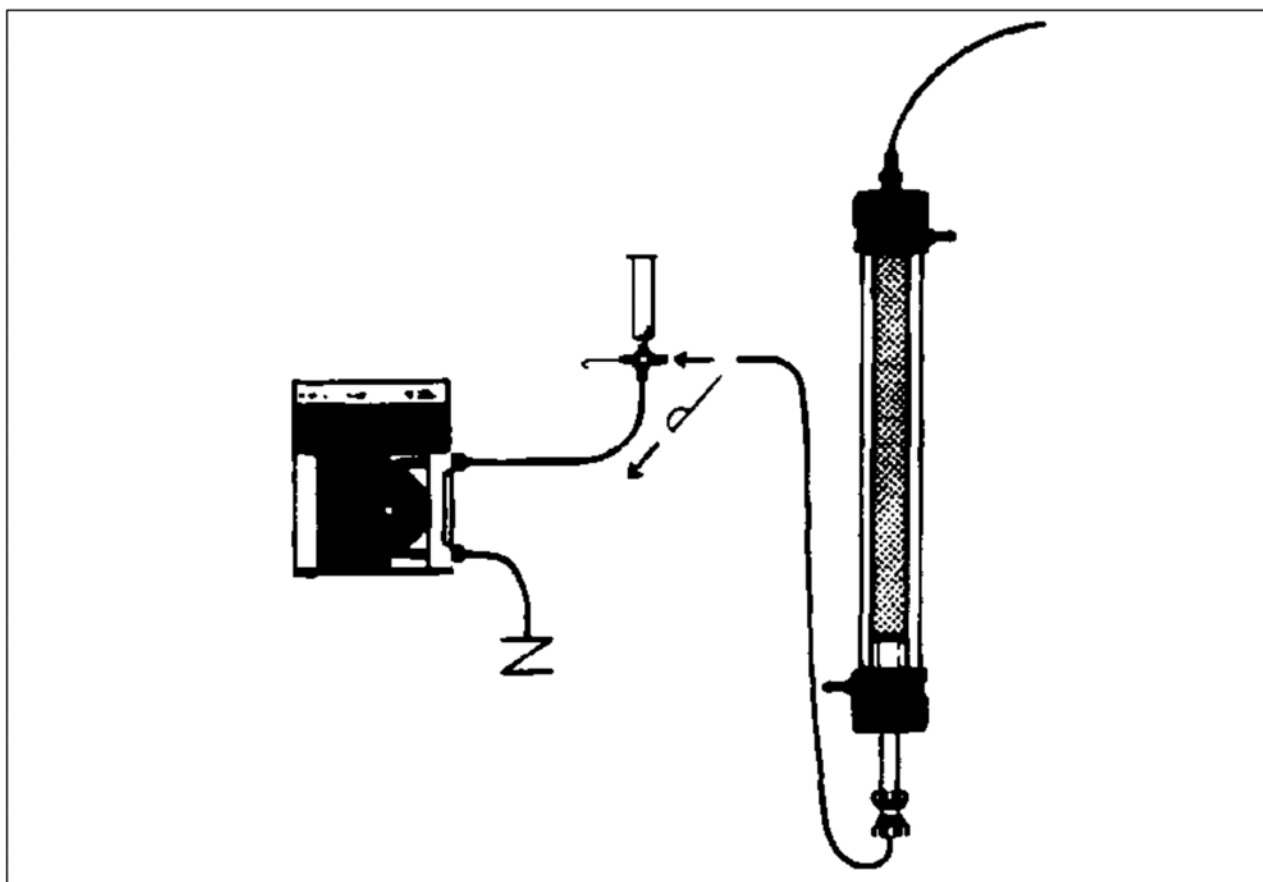

Fig. 4.
6. Remove the stopper from the adaptor tubing. If there are any air bubbles in the tubing below the adaptor, remove the stopper from the end piece tubing and allow buffer to run through the line for a few seconds. Connect the tubing from the adaptor to the sample application valve (Fig. 4.)